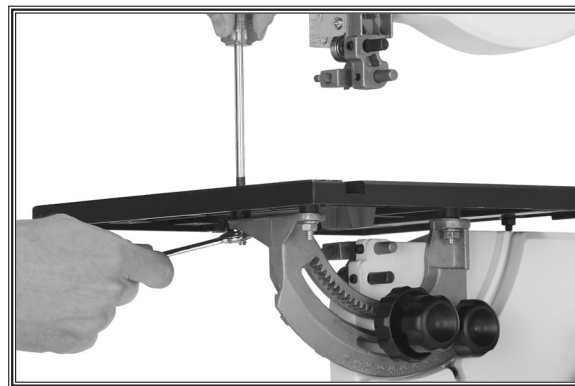

Figure 16. Fastening table to trunnion.
3. Using a Phillips head screwdriver and 10mm wrench, fasten the table to the trunnion with the 1/4"-20 x 1 1/4" flat head screws, lock washers, and hex nuts as shown in **Figure 16**.